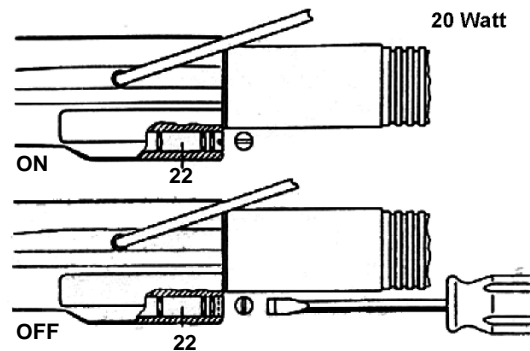

Fig. 11: Switching screw suction off (20 Watt)
- 20 Watt screwdrivers, by turning the bolt (22) (see Fig. 11:).